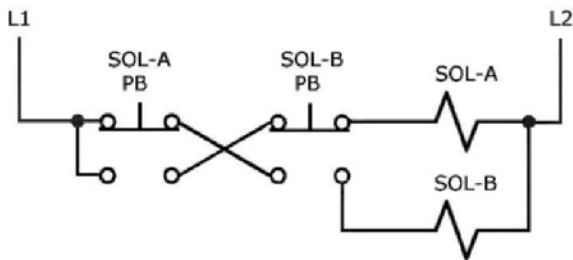

Figure 6-46
28) Prepare an I/O connection diagram and ladder logic program for the hardwired pushbutton interlocking control circuit shown in Figure 6-46. This circuit is designed to prevent solenoid SOL_A and SOL_B from being energized at the same time. Enter the program into the PLC, and prove its operation.